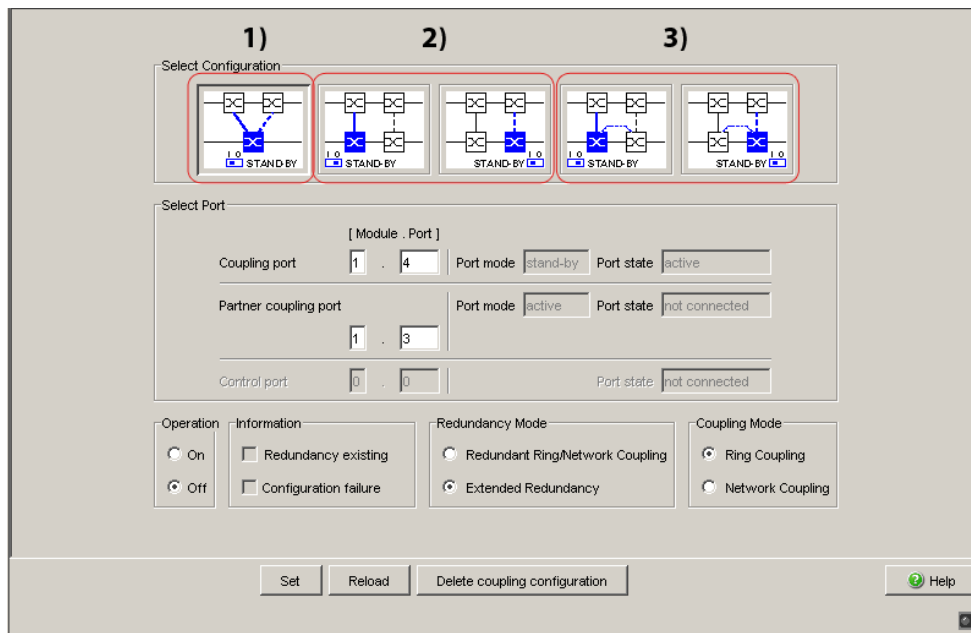

Figure 22: Choosing the ring coupling configuration (when the DIP switch is off, or for devices without a DIP switch)
- You first select the configuration you want: One-Switch coupling ("1"), two-Switch coupling ("2") or two-Switch coupling with control line ("3"), (see figure 22).